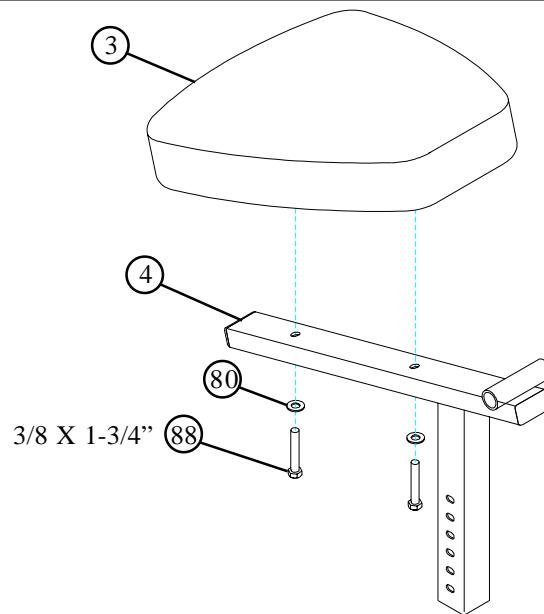

FIGURE 11
- **SECURELY** assemble one PEC STATION PAD (3) to the SEAT ADJUST (4) using two 3/8 X 1-3/4" BOLTS (88) and two 3/8" WASHERS (80). See FIGURE 11.